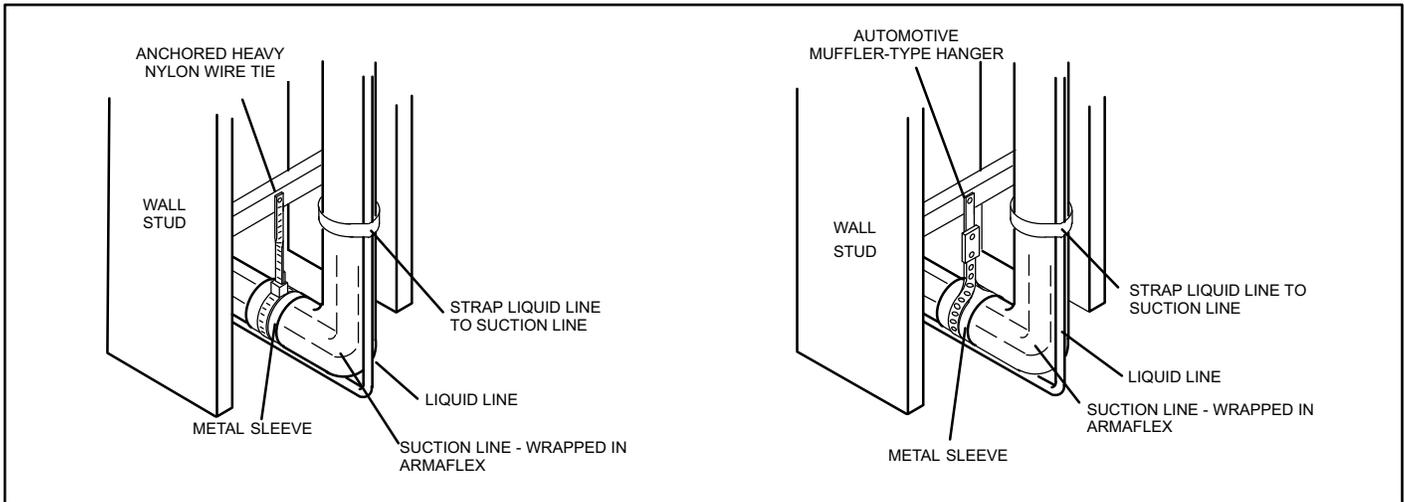

Figure 16. Refrigerant Line Set: Transition from Vertical to Horizontal
- Installation of a **transition from horizontal to vertical** is illustrated in figure 16.